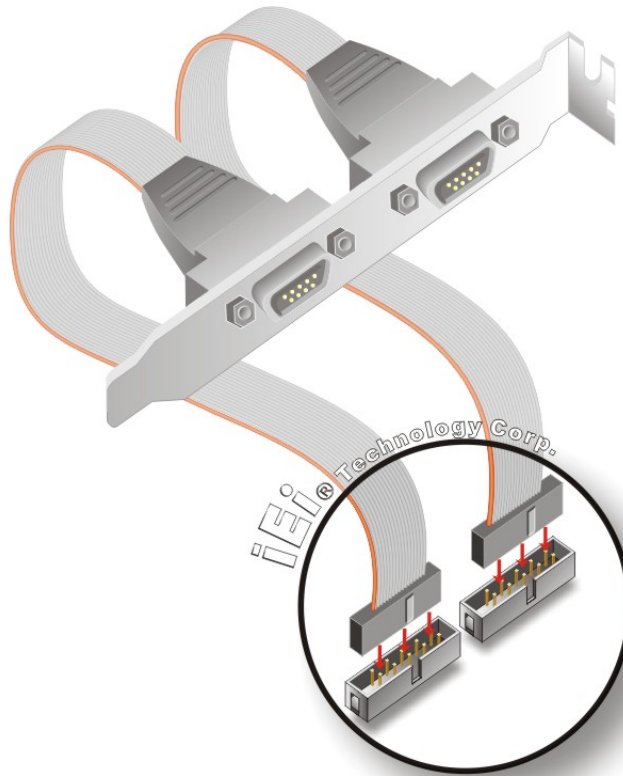

Figure 5-11: Dual RS-232 Cable Installation
Step 2: Insert the two small connectors on the cables into the serial port box headers on the CPU card (**Figure 5-11**).